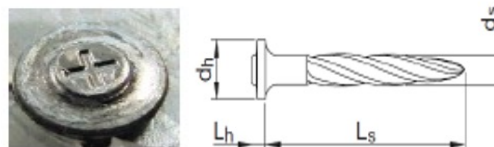

FIGURE G1.3(D): CERT-R-FIX® POWDER ACTUATED FASTENER
■ FIGURE G1.3(A): CERT-R-FIX HEX HEAD BOLT
■ FIGURE G1.3(B): CERT-R-FIX THREADED HEAD BOLT
■ FIGURE G1.3(C): CERT-R-FIX COUPLER